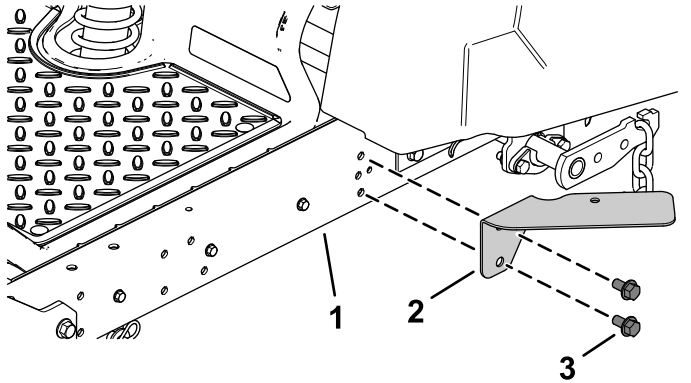

Figure 5
1. Secure the side light bracket to the platform using 2 self-tapping hex washer-head bolts as shown in Figure 5.